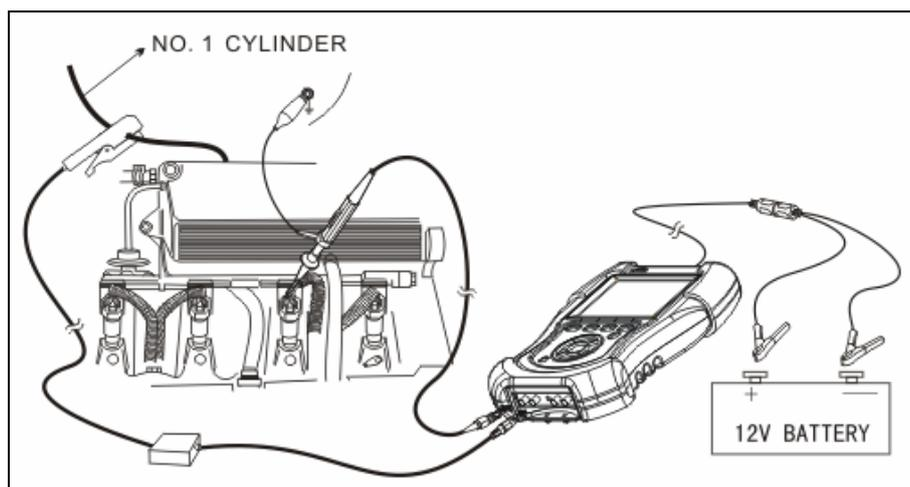
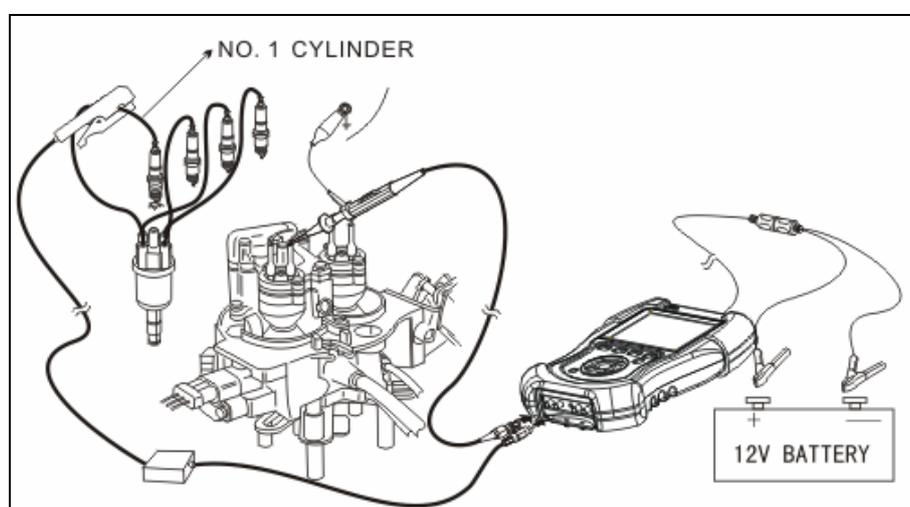

Fig. 4-4
Fig. 4-5
When connecting KT600 to extension line for power supply, choose battery or cigar igniter as power supply according to the battery position of vehicle mode tested. All connecting diagrams in this users manual take power supply by battery as example. If choosing cigar igniter connector, confirm that cigar igniter has 12V battery voltage first. Connect inductive pickup to Channel CH5/(CH3) and to high voltage line of one cylinder, place attenuation switch in front of test probe to X10 position, and then connect the small alligator clip on test probe to the negative of battery or grounding, pierce test probe into the signal line of nozzle. Connecting diagram of multi-point fuel injection is shown as Fig.4-4, and connecting diagram of single point fuel injection is shown as Fig.4-5.
- Connect equipment according to Fig.4-4 or Fig.4-5, switch on power supply switch of KT600;
- Select FUEL INJECTION (FI), press [ENTER] button to confirm, and waveform will be displayed on the screen depending on test conditions;